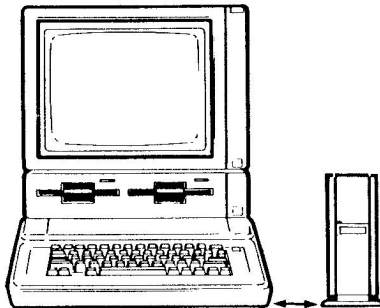

Fig. 8 Allow minimum of 2 inches on all sides for proper ventilation
- Proper ventilation for your Sider, as depicted in Figure 8. The Sider doesn't have a cooling fan; it maintains its operating temperature by convection cooling. Allow a minimum of two inches on each side of the subsystem, and never place anything on top of it. Improper ventilation can cause damage to the subsystem, rendering it inoperable.